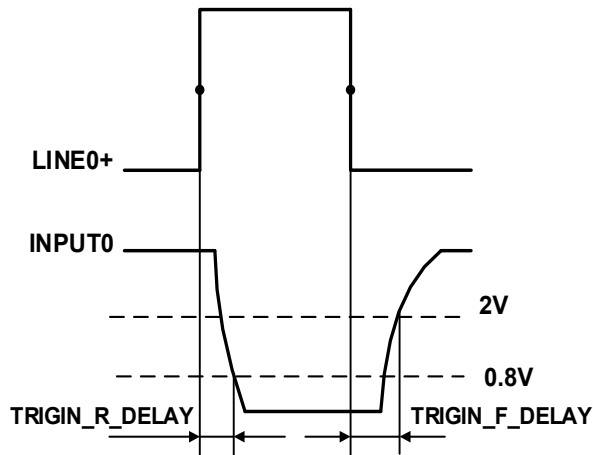

Figure 7-4 Parameter of opto-isolated input circuit
- Rising edge delay: <math>< 50 \mu s</math> ($0^{\circ}C \sim 45^{\circ}C$), parameter description as shown in Figure 7-4.
- Falling edge delay: <math>< 50 \mu s</math> ($0^{\circ}C \sim 45^{\circ}C$), parameter description as shown in Figure 7-4.